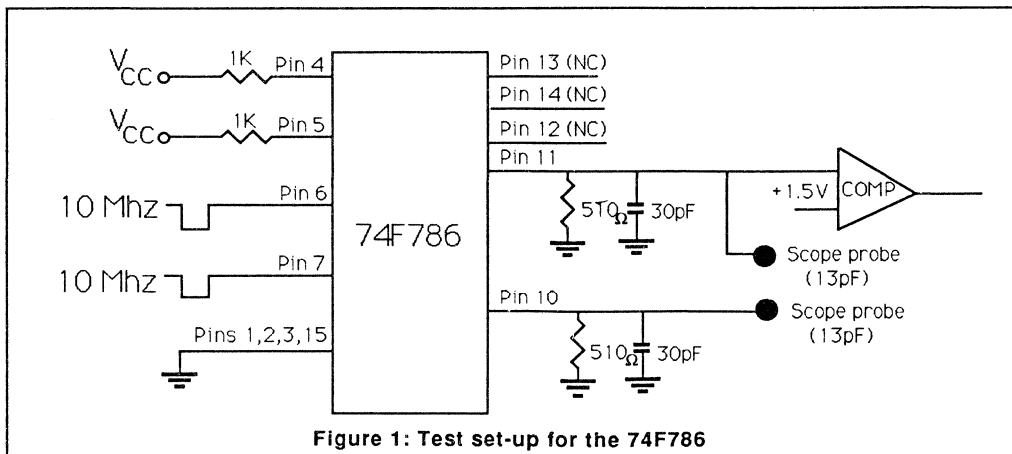

Figure 1: Test set-up for the 74F786
Through out the test period, the connections to some of the package pins was as shown in Figure 1. The 4 input pins (1, 2, 3 and 15) to the AND gate were all grounded. The output of the AND, pin 14, was left open. The output enable  $\overline{EN}$  pin (9) was grounded. The power ground pin (8) was grounded and the  $V_{CC}$  power pin (16) was connected to  $V_{CC}$ . The 4 input pins to the arbiter (4, 5, 6 and 7) were treated as a group with two of the pins always
The test conditions used for the selection process from the 19 packages is shown in Figure 1 with the results shown in Table 1. The values reported in Table 1 were calculated with  $t'$  (defined later) at 7.60 and 9.93ns. Note that the active inputs are pins 6 and 7 and the output tested is pin 11. The last column of this table is the period, after two requests, required to assure that the pack-